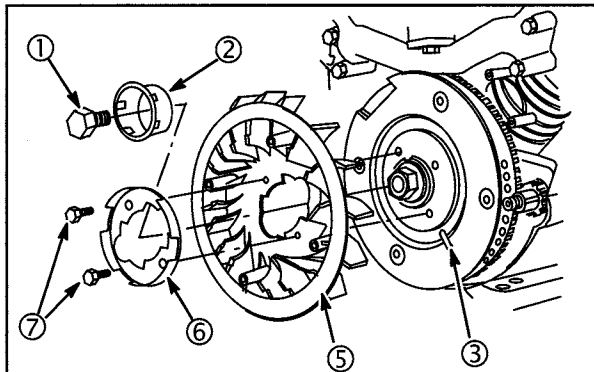

Fig. 18
1. Align boss on back of fan (5) with notch (3) in flywheel, Fig. 18.
2. Align cut out in retainer (6) with cut out in fan.
3. Torque screws (7) to **150 in. lbs. (17 Nm)**.
4. If equipped, install rewind starter hub (2) and starter hub screw (1).